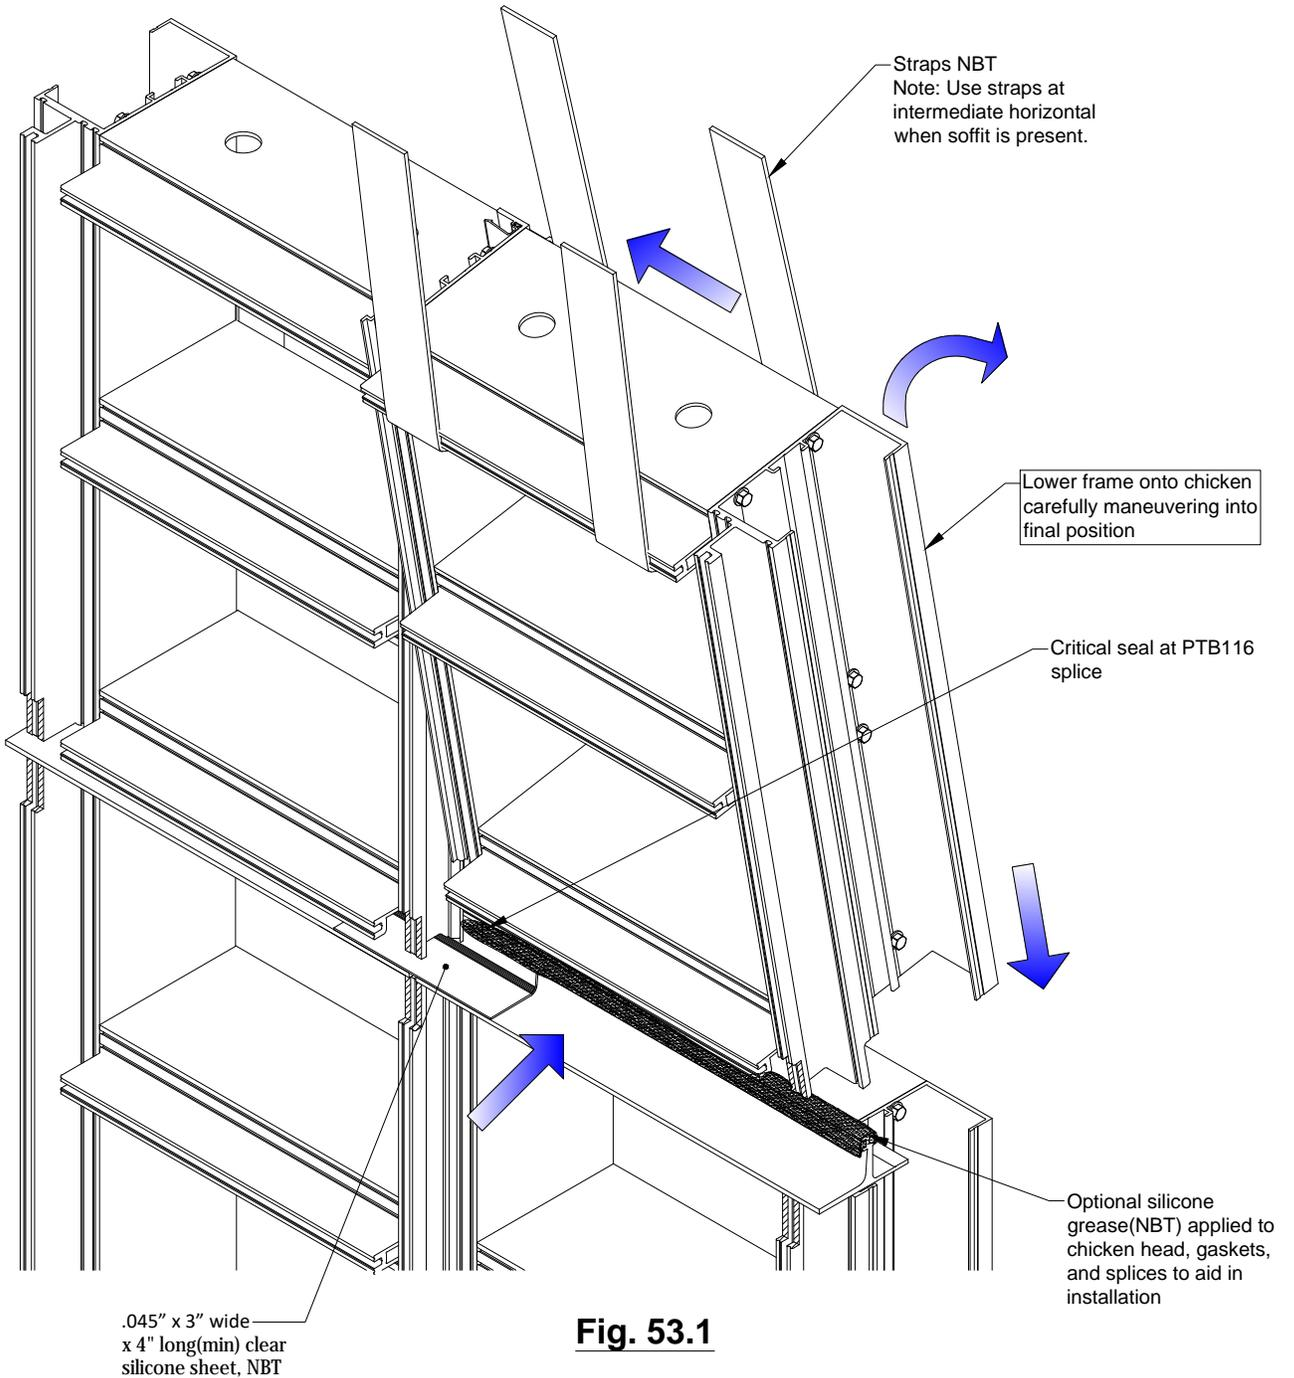

Fig. 53.1
- ix. At chicken head splice joints, apply a liberal amount of DOW 111 or equivalent to cover the top of the splice joint prior to setting the upper frame unit into position. Where there are chicken head gasket splices, apply seal here as well. See Fig. 53.1.